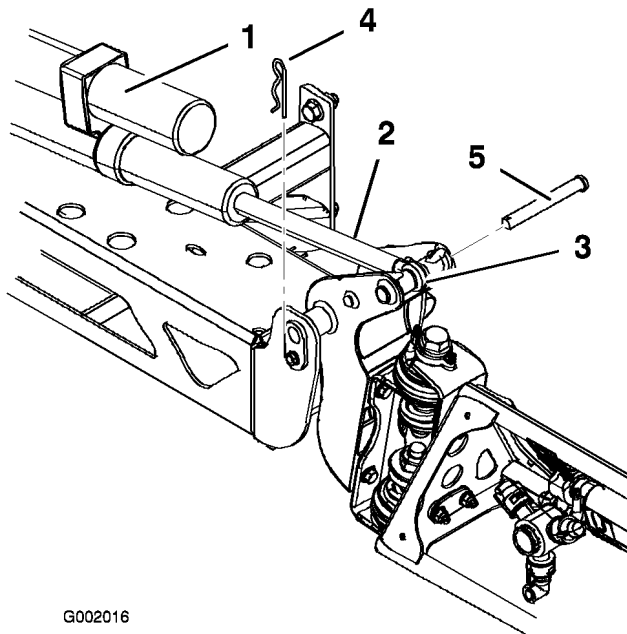

Figure 44
2. Remove the cotter pin from the pivot pin (Figure 44).
3. Lift up on the boom and remove the pin (Figure 44). Slowly lower the boom to the ground.
6. Raise the boom to align the pivot with the actuator rod. While holding the boom, insert the pin through both boom pivot and actuator rod (Figure 44).